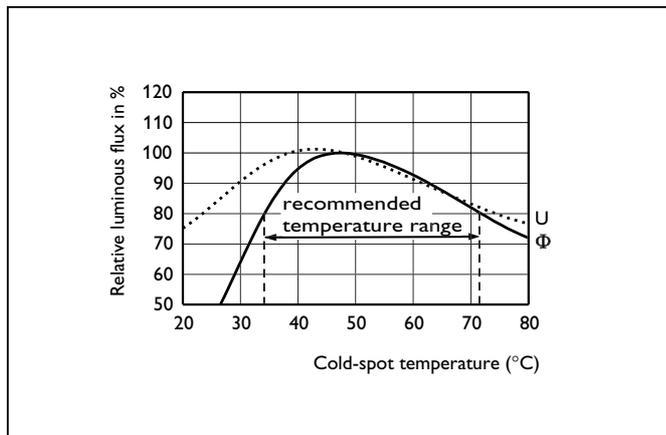

Figure 5.4.1: Dependency at rated lamp current
Dimming is done by reducing the discharge current flowing through the lamp. At lower lamp currents, the lamp voltage (U) will increase (see Annex 2 for the relationship between lamp voltage and current at 25 °C ambient temperature). The lamp voltage is not only dependent on the lamp current, but also on the mercury vapour pressure in the lamp. Under equilibrium conditions the mercury vapour pressure is controlled by the coldest spot inside the discharge tube. Therefore the values of lamp voltage, lamp current, lamp power and light output also depend on the temperature of the air immediately surrounding the lamp and also on the burning position of the lamp (see figure 5.4.1). Under High Frequency conditions with sinusoidal discharge current, the lamp voltage will be sinusoidal as well. The lamp power can thus be estimated with considerable accuracy using the product of lamp current by lamp voltage.